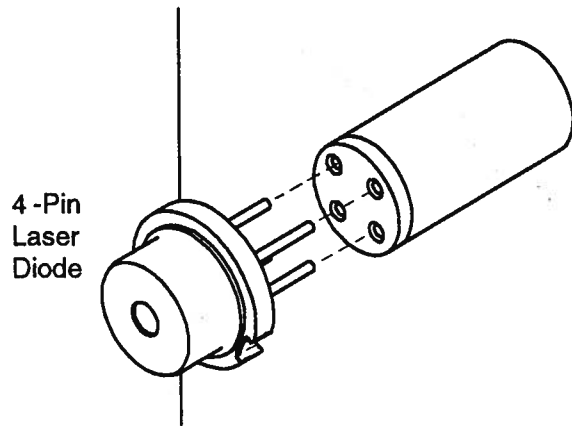
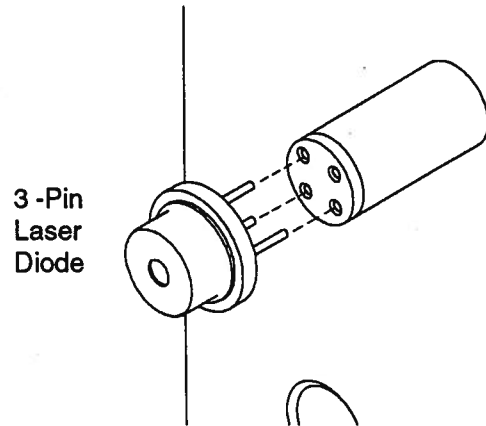
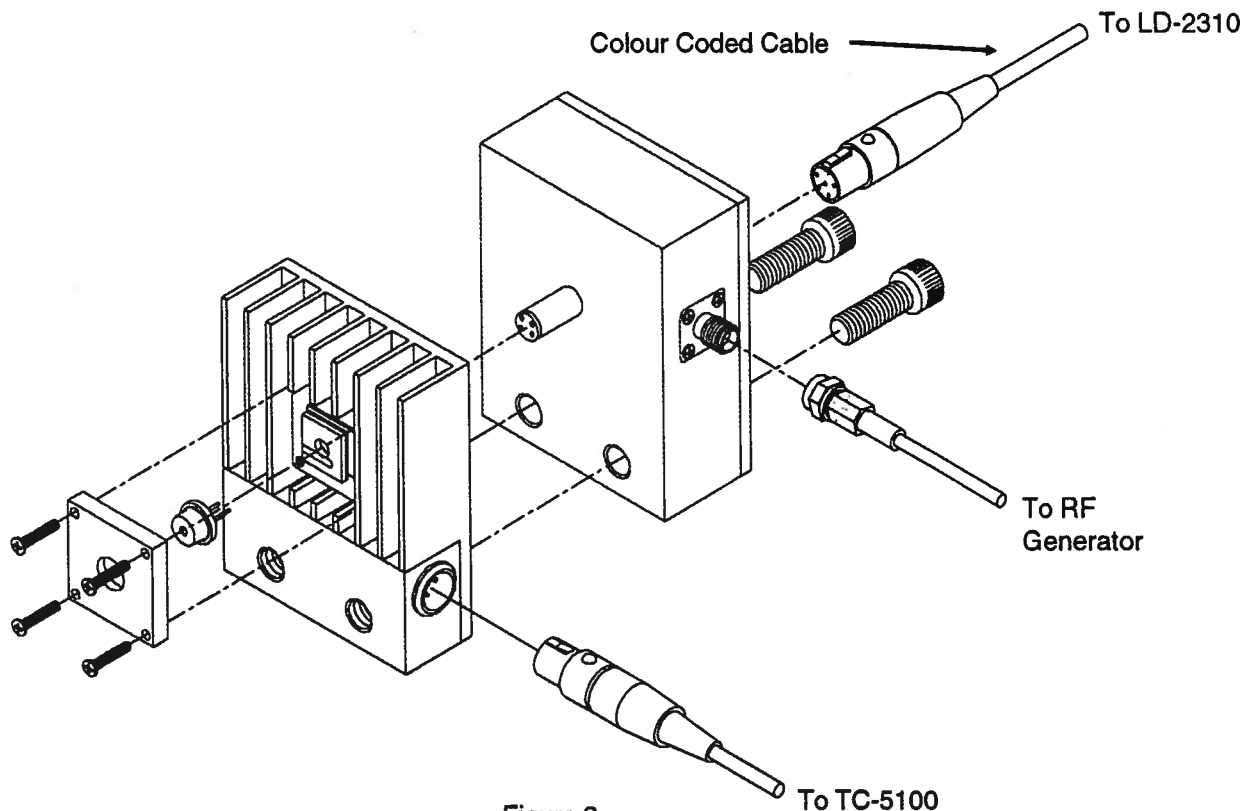
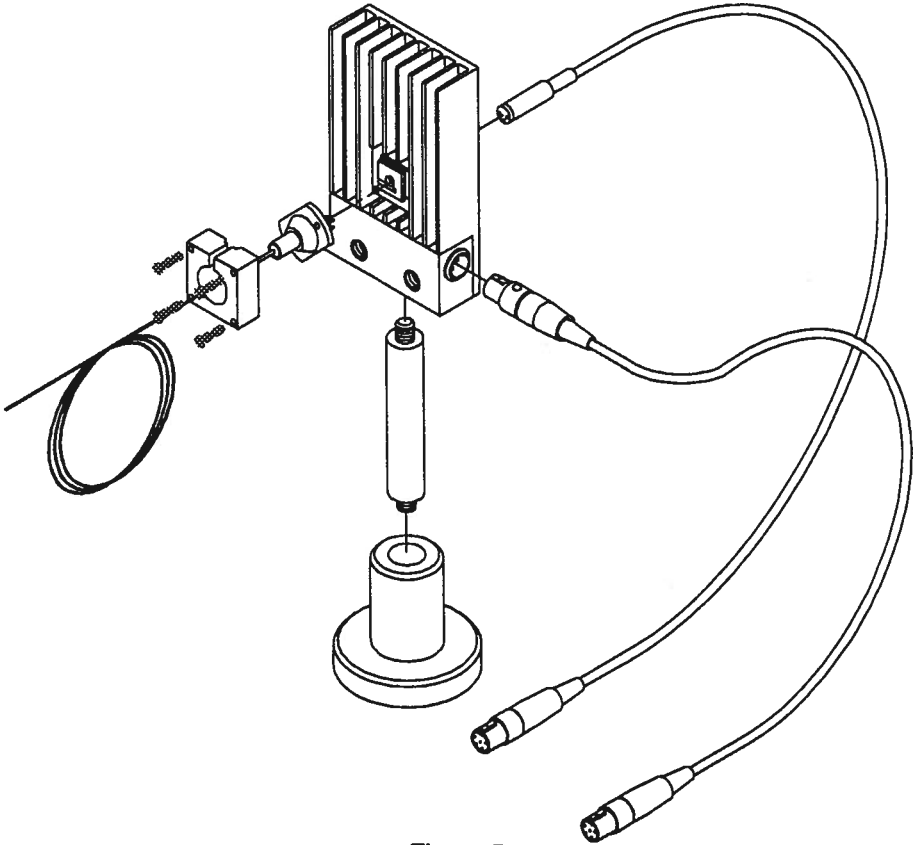

Figure 1
Figure 2
Figure 3
Figure 5
- Plug 4-Pin Laser Diodes into the socket of the AC-9603 oriented as shown in figure 1. For 3-Pin Laser Diodes orient the Laser Diode as shown in figure 2. For 3-Pin Pigtailed Laser Diodes orient the Pigtail the same as the Laser Diode shown in figure 2 and attach it to the AC-9550 Temperature Head with the mounting cap as shown in Figure 5
The Laser Diode should normally be connected to the AC-9603 Bias-T via a AC-9300 Passive Heat Sink, or a AC-9550 A Temperature Head. Figures 1 & 2 does not show these components in order to clearly indicate the Laser Diode orientation with respect to the AC-9603 Bias-T socket.
Figure 3 shows how the components of a Bias-T/Temperature Head System are assembled together with a Laser Diode.
Figure 5 shows the installation of the Pigtailed Laser Diode Cap which is screwed in place with the four supplied mounting screws. Please refer to Figure 3 which indicates how the AC-9603 Bias-T is connected to the AC-9550 Temperature Head.